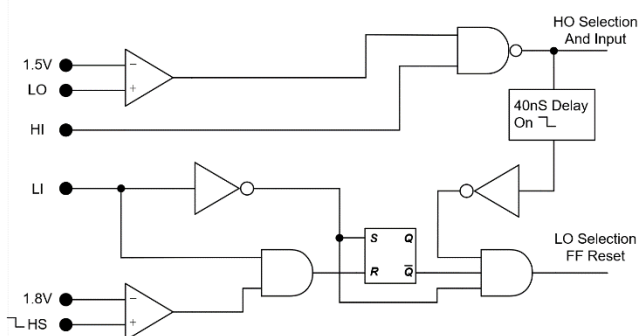

Figure 6-8: Adaptive Dead-Time Logic Diagram (PWM)
The internal gate resistance (RG_FET) and any external damping resistor (RG) isolate the MOSFET’s gate from the driver output. There is a delay between when the driver output goes low and the MOSFET turns off. This turn-off delay is usually specified in the MOSFET data sheet. This delay increases when an external damping resistor is used. The MD6301 uses a combination of active sensing and passive delay to ensure that both MOSFETs are not on at the same time, minimizing shoot-through current. Figure 6-8 illustrates how the adaptive dead-time circuitry works.